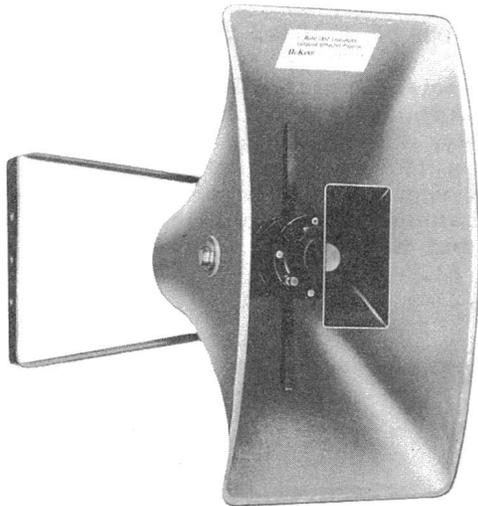

Figure 54 - DuKane 5A90 Loudspeaker
3.72 The DuKane 5A90 is similar in construction and color to the DuKane 5A105. It is a 16-ohm, 30-watt loudspeaker with a dispersion angle of  $120^{\circ}$ . When used with the DuKane 710-3050 transformer it is suitable for indoor or outdoor use. The over-all dimensions are 10-1/2" wide, 20-1/2" high, and 20" deep. It weighs 12 pounds. This loudspeaker is shown in Figure 54.